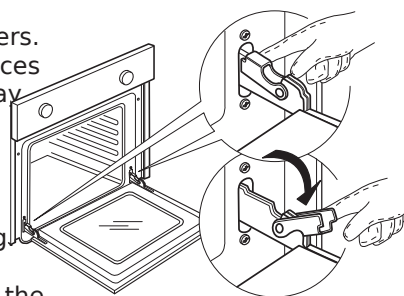

Fig. 1
1. Insert the shelf horizontally, with the raised part "A" upwards (Fig. 1).
2. Lift the catches and push them forwards as far as they will go (Fig. 1).